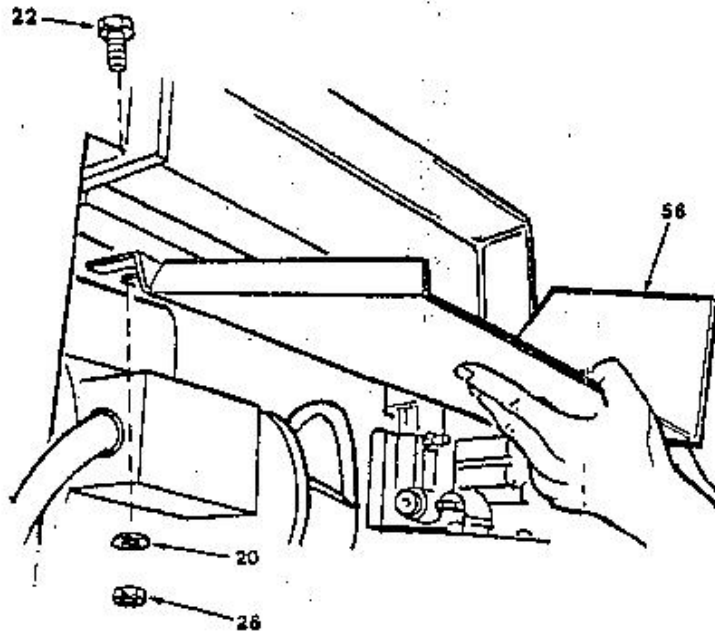

Figure 5- Slug Chute Installation
Position the slug chute (56) as shown in Figure 5, making sure that the slots engage the 3/8-16 x 1" hex head screws previously installed with the front cover and tighten the screws.